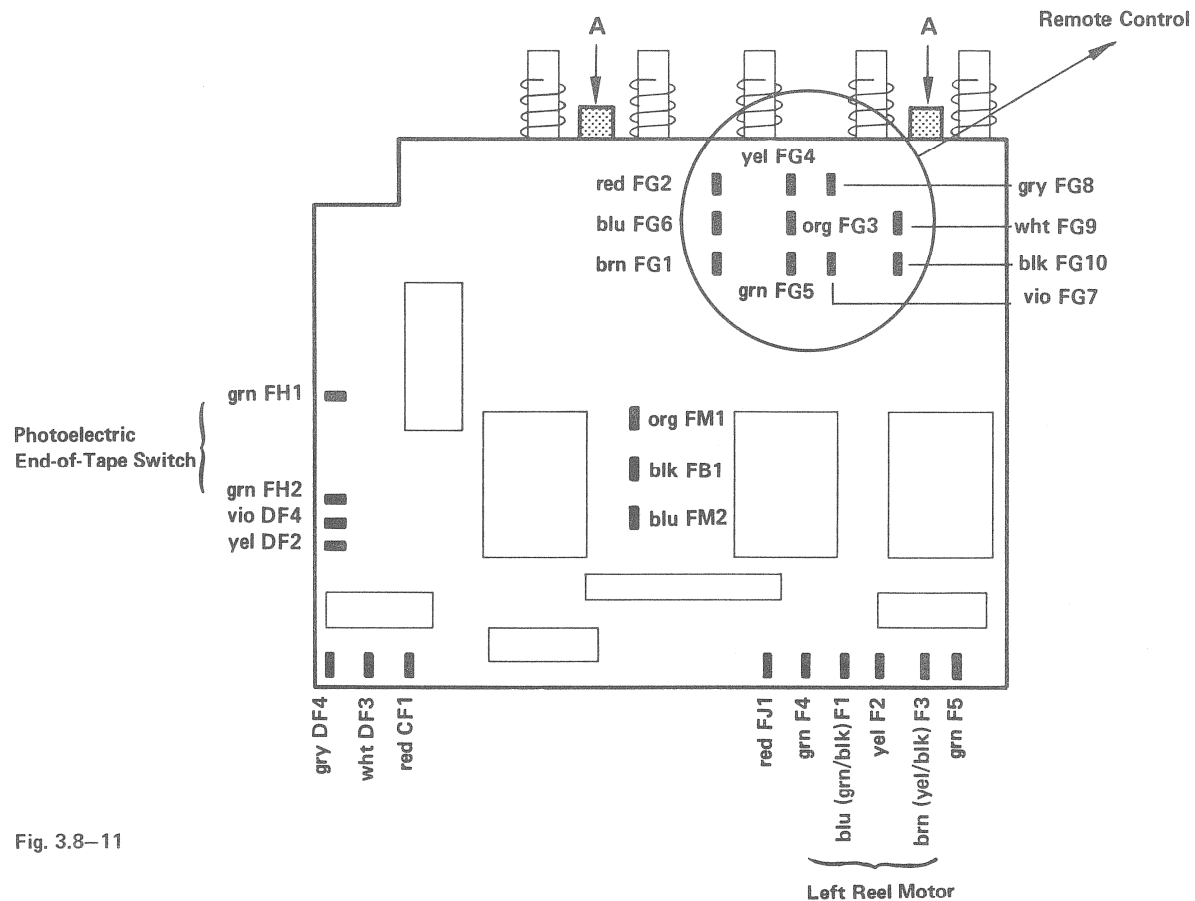

Fig. 3.8-11
- Undo screws A (fig. 3.8-11). Pull control board downward.